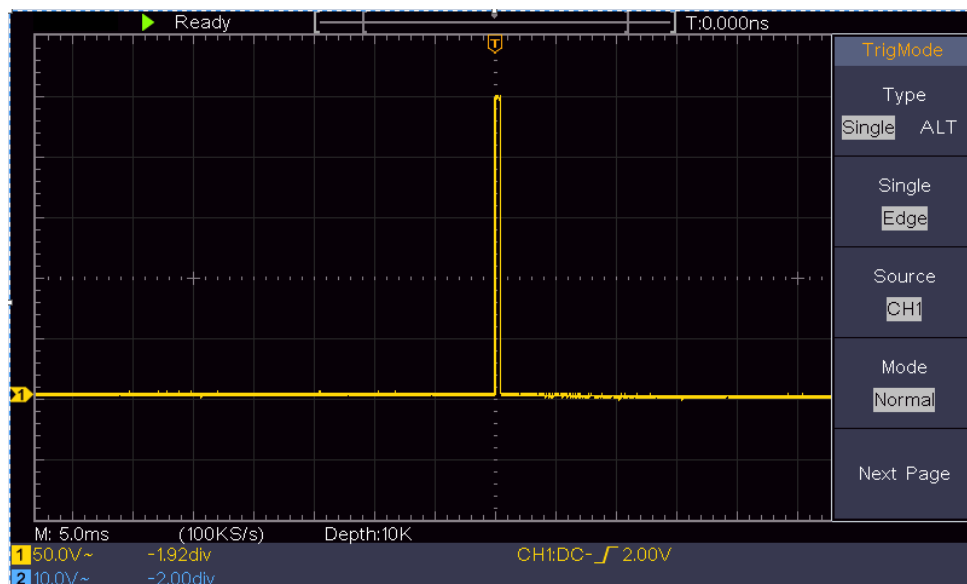

Figure 0-3 Capturing a Single Signal
- (2) Adjust the **Vertical Scale** and **Horizontal Scale** knobs to set up a proper vertical and horizontal ranges for the signal to be observed.
- (3) Push the **Acquire** button to display the right menu.
- (4) In the right menu, select **Acqu Mode** as **Peak Detect**.
- (5) Push the **Trigger Menu** button to display the right menu.
- (6) In the right menu, select **Type** as **Single**.
- (7) In the right menu, select **Single** as **Edge**.
- (8) In the right menu, select **Source** as **CH1**.
- (9) In the right menu, press **Next Page**, select **Coupling** as **DC**.
- (10) In the right menu, select **Slope** as  (rising).
- (11) Turn the **Trigger Level** knob and adjust the trigger level to the roughly 50% of the signal to be measured.
- (12) Check the Trigger State Indicator on the top of the screen, if it is not Ready, push down the **Run/Stop** button and start acquiring, wait for trigger to happen. If a signal reaches to the set trigger level, one sampling will be made and then displayed in the screen. By using this approach, a random pulse can be captured easily. For instance, if we want to find a burst burr of high amplitude, set the trigger level to a slightly higher value of the average signal level, push the **Run/Stop** button and wait a trigger. Once there is a burr occurring, the instrument will trigger automatically and record the waveform during the period around the trigger time. By turning the **Horizontal Position** knob in the horizontal control area in the panel, you can change the horizontal triggering position to obtain the negative delay, making an easy observation of the waveform before the burr occurs (see *Figure 0-3*).